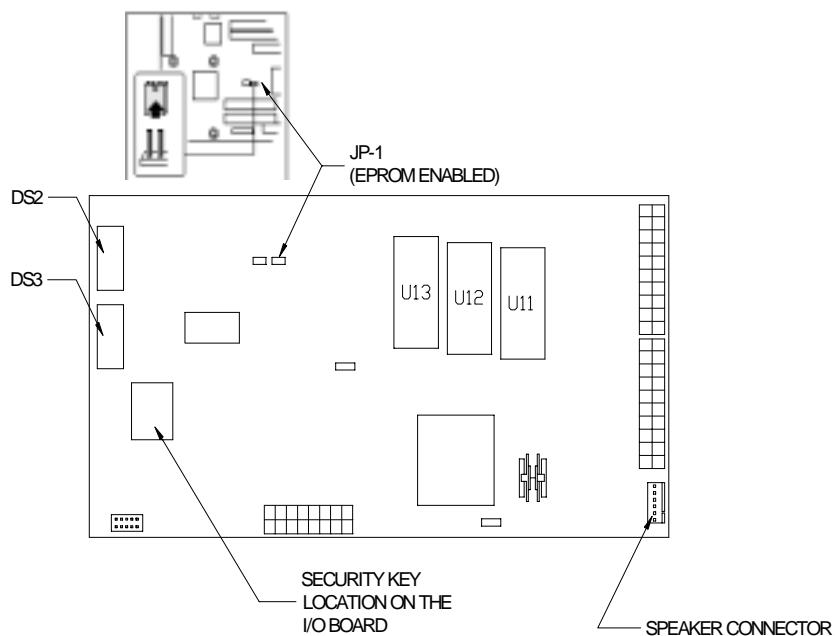

FIGURE 8 - I/O BOARD LOCATIONS
*NOTE: Before you begin the installation of the hard drive, you must adjust the jumper settings on the I/O board. (JP-1 EPROM ENABLED, MUST BE SET TO THE OPEN POSITION). See Figure 8.*
25. Using Figure 8, locate the existing security key, on the I/O board of the motherboard assembly, and remove it from the board. (To remove the existing key, you may need to cut away silicone sealant holding the key in place.)
31. Make sure all DIP switches on DS2 and DS3 are set to the *OFF* position. See Figure 8.